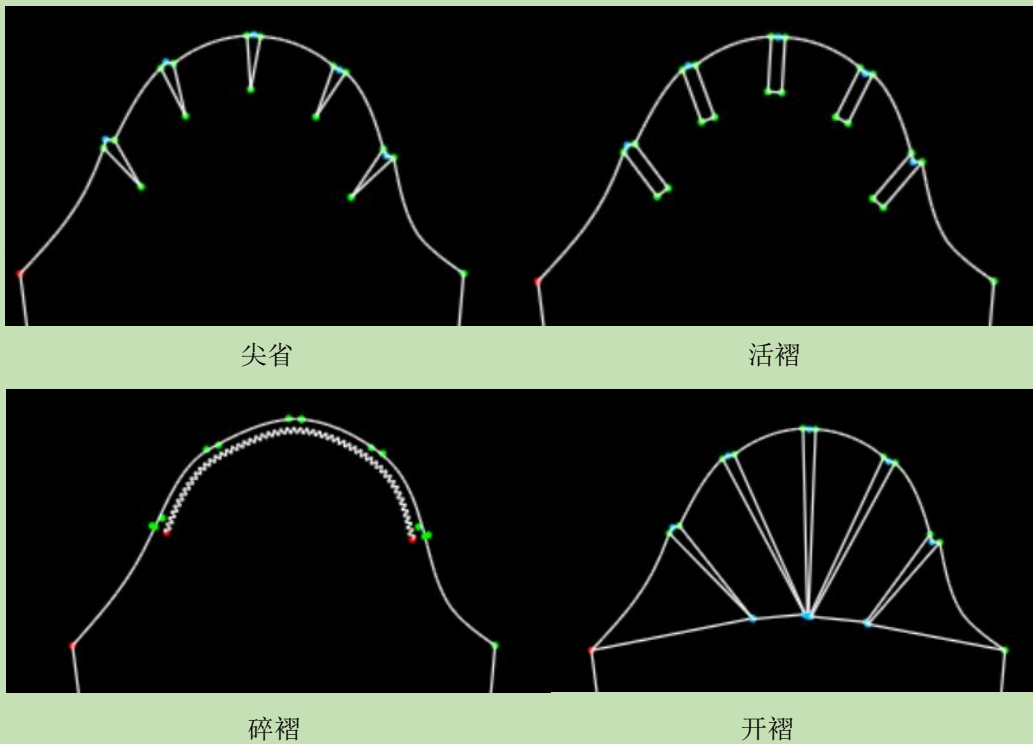

Figure4-91
a. There are four different insertion types: "Pointed Dart, Box Pleat, Gathered Pleat, and Slit Pleat". The four types of pleats are shown in Figure 4-91.